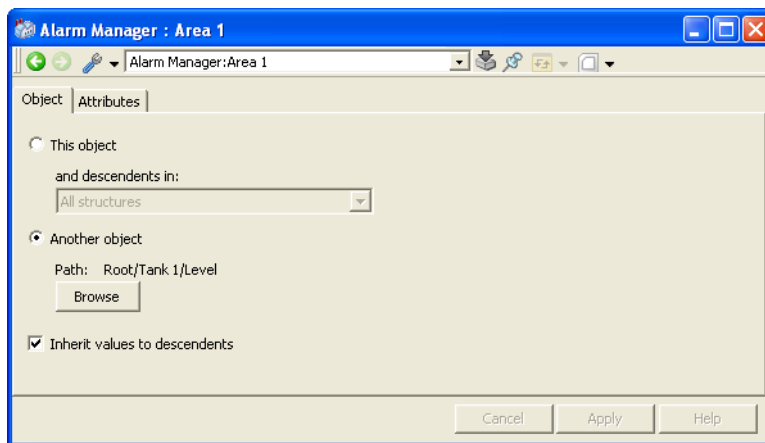

Figure 174. Object Tab Definition
3. On the **Object** tab, select if the attribute is extended to only the specific object and the descendants of the object or another object, refer to Figure 174.